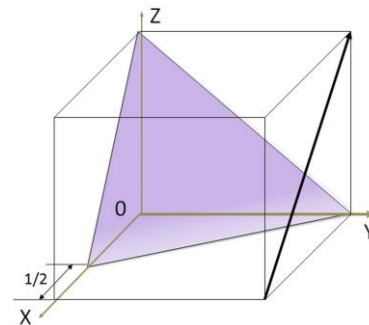

Figure 2: Cubic unit cell
9. Determine the miller indices for the plane and the direction depicted in the cubic unit cell in Figure 2. Write the steps involved in finding the same.